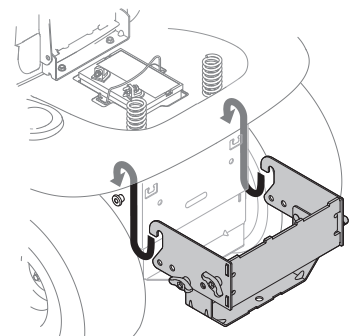

Figure 7
1. Place the hooked ends of the mounting assembly over the shoulder bolts on the back of the tractor frame and line up the hitch support bracket center hole with the hole on the tractor's hitch. See Figure 7.